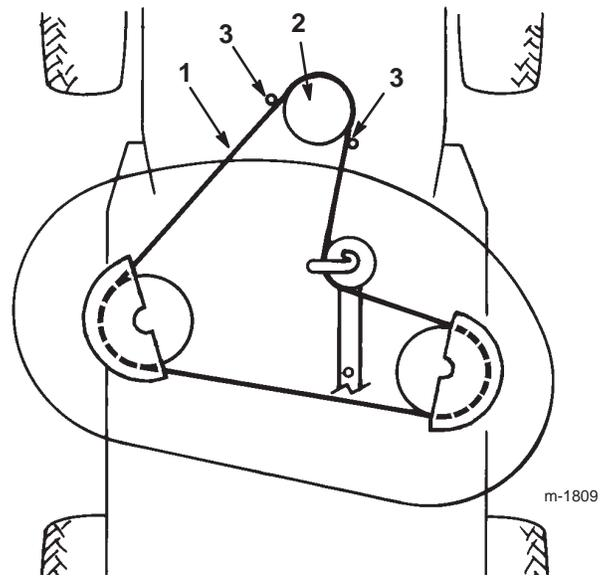

Figure 41
- Remove the mower belt from the lower engine pulley (Fig. 41). If you are careful, you can flex the belt guides just far enough away from the pulley to remove the belt. If it is too difficult to remove the belt, loosen the bolts and nuts securing the belt guides.
- Install the mower belt onto the lower engine pulley (Fig. 41). If you are careful, you can flex the belt guides just far enough away from the pulley to install the belt. If it is too difficult to install the belt, loosen the bolts and nuts securing the belt guides.